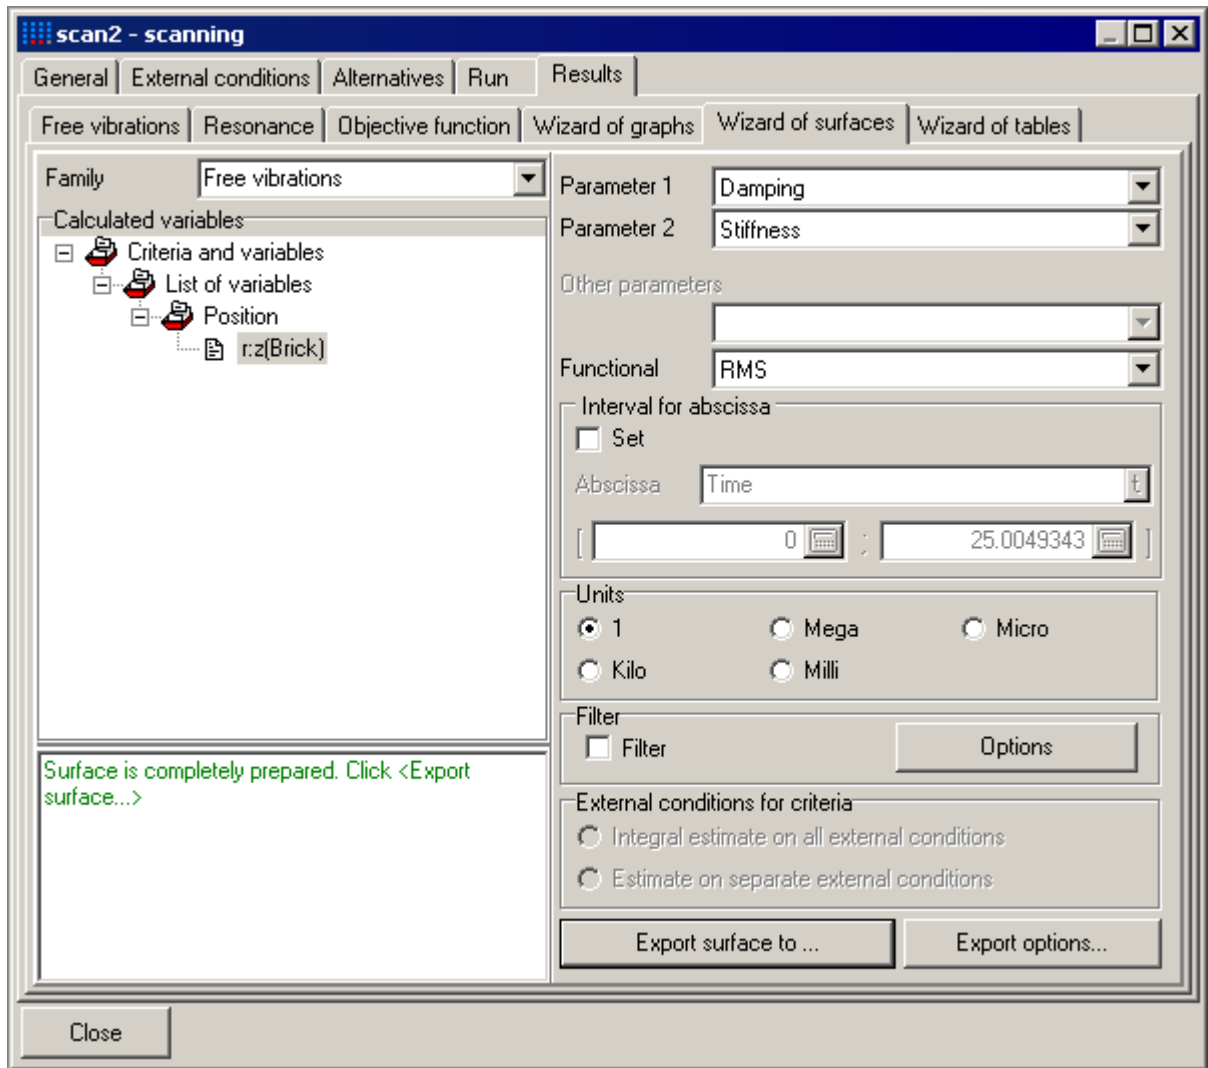
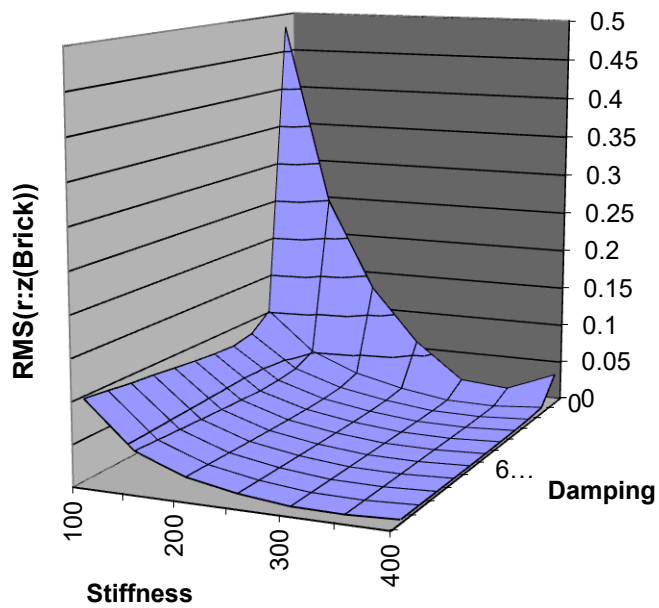

Figure 1.19. Wizard of surfaces
Figure 1.20. Exported surface
Wizard of surfaces is intended for creating the response surface as functional of any calculated variable in dependence on two any design parameters keeping other parameters constant. Working with **Wizard of surfaces** make sense if scanning has at least two design parameters. **Wizard of surfaces** is quite similar to **Wizard of graphs**. An example of using the **Wizard of surfaces** is given in Figure 1.19. Corresponding surface in *Microsoft Excel* is given in Figure 1.20.
- Select the family, calculated variable or criterion and necessary functional, see Figure 1.19.